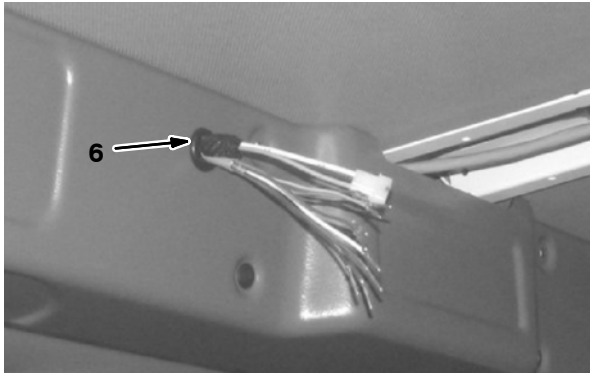

FIG. 7
8. Route the arrow stick controller connector on the main wire harness and the arrow stick cable assembly (2) through the 5/8 in. hole in the upper control panel and reinstall the panel onto the machine. Refer to Fig. 6 and Fig. 7.
9. Slide the grommet (6) over the arrow stick controller connector and arrow stick cable assembly (2) and install the grommet (6) into the 5/8 in. hole in the upper control panel and metal backing. Refer to Fig. 7.
10. Plug the the arrow stick controller connector from the main harness and the arrow stick cable assembly (2) into the controller. Refer to Fig. 7 and Fig. 34.